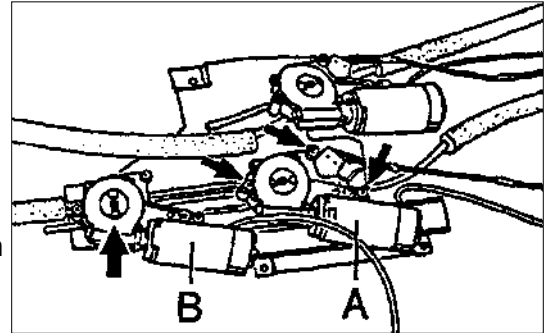
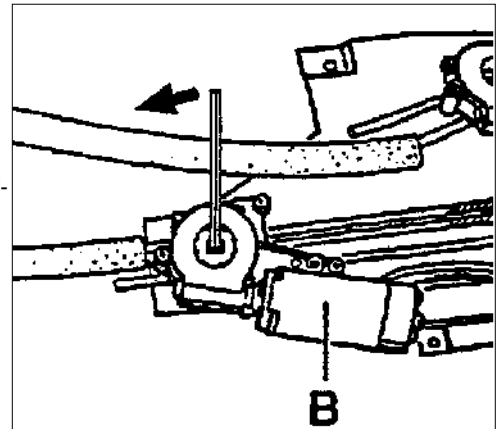

Figure 3
Figure 4
- Remove the left motor (Figure 3, pos. A) for the wind deflector and the glass sunroof panel from the rear panel (arrows).
- On the right motor (Figure 3, pos. B) lift the red plastic driver (Figure 3, arrow).
- Turn the shaft of the right motor (Figure 3, pos. B) with a 4mm allen wrench counter clockwise (Figure 4, arrow) until the left mechanism for the wind deflector starts to move. After this, turn the shaft 90 degrees clockwise.
- Perform a function test of the wind deflector. If the motor makes a lot of noise when the wind deflector closes, an additional tooth clockwise must be turned on the motor (Figure 4, pos. B). For this, the red plastic driver must be removed and the left motor (Figure 3, pos. A) must be removed again. After the adjustment, perform an additional function test of the wind deflector. If necessary move one additional tooth clockwise.